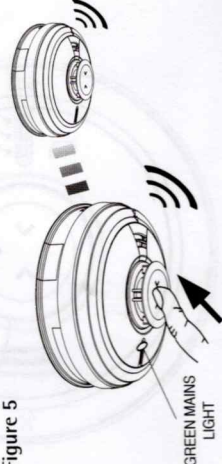

Figure 5
- Press and hold the test/hush button for 10 seconds (see Figure 5). The horn will sound. Check that any interconnect Alarms also sound within this period. The test button sounds the local horn and on release this horn stops immediately, and all the interconnect Alarms can then be heard in the distance as they will continue to sound for a further 3 seconds.